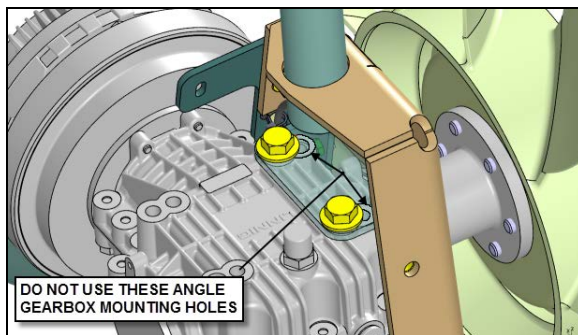

FIGURE 29: RIGHT ANGLE GEARBOX
1. Wrap the new drive belt around the fan drive mechanism pulley, the idlers and the automatic tensioner idler as shown on figure 29.
2. Using the special tool included with your vehicle (see inside the Warning Reflectors box located in the first curb-side baggage bay), rotate the automatic tensioner in clockwise direction to relieve tension on the belt and hold the tensioner in that position (Fig. 29).